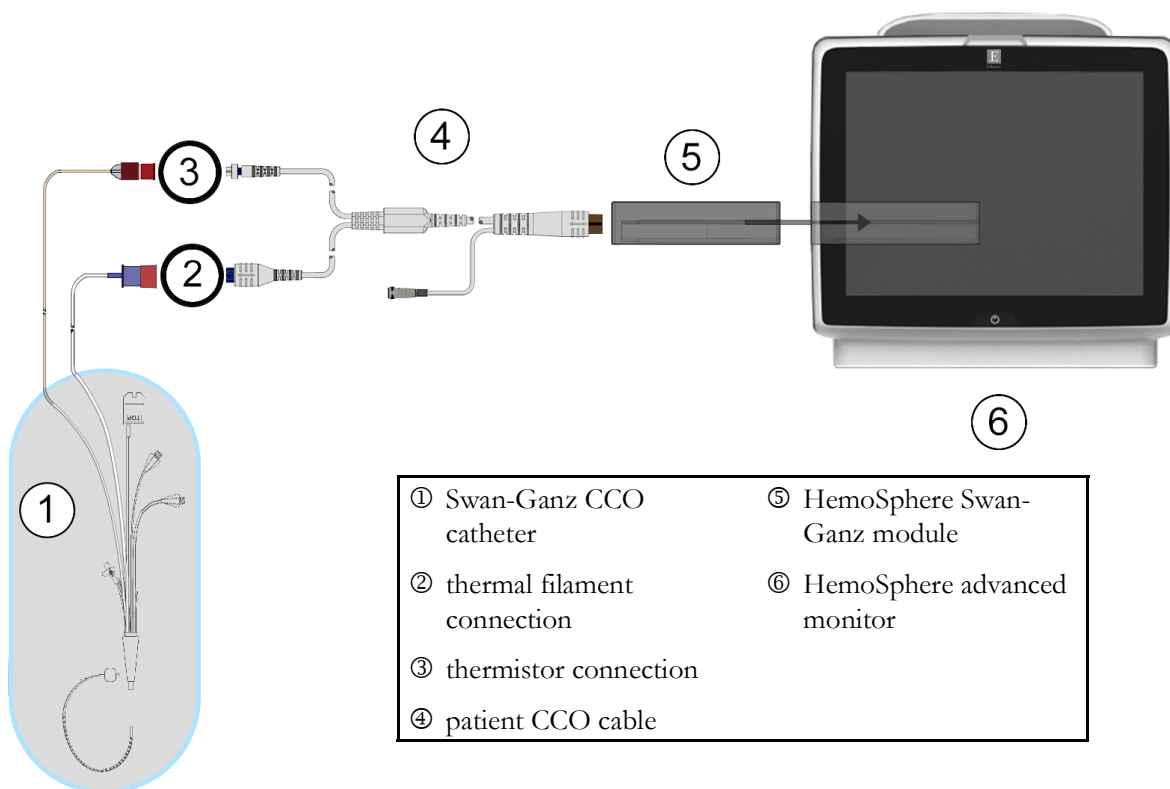

Figure 9-4 CO connection overview
- 2 Attach the catheter end of the patient cable to the thermistor and thermal filament connectors on the Swan-Ganz CCO catheter. These connections are emphasized as numbers ② and ③ in figure 9-4 on page 150.